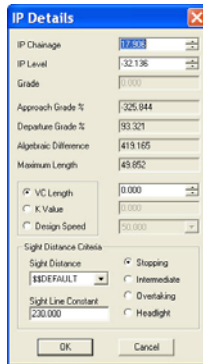

Figure 18-34. IP Details Dialog Box
2. Enter either the Chainage and/or Level for the new IP position or click an approximate position onscreen with the mouse. The *IP Details* dialog box appears (Figure 18-34).
5. Double-click on the mouse to display the *IP Details* dialog box (Figure 18-34 on page 18-36).